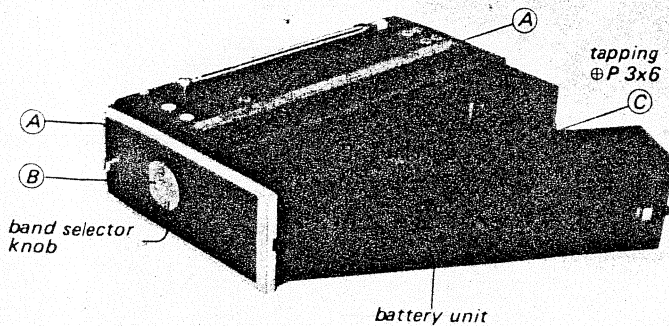

Fig. 2-1
1. Remove the two retaining screws marked (A) in Fig. 2-1.
2. Remove the ornamental screw marked (B) in Fig. 2-1 and pull out the band-selector knob.
4. Remove the three tapping screws ($\oplus P 3 \times 6$) marked (C) in Fig. 2-1.
5. Remove the cabinet in the direction shown by the arrow in Fig. 2-1.